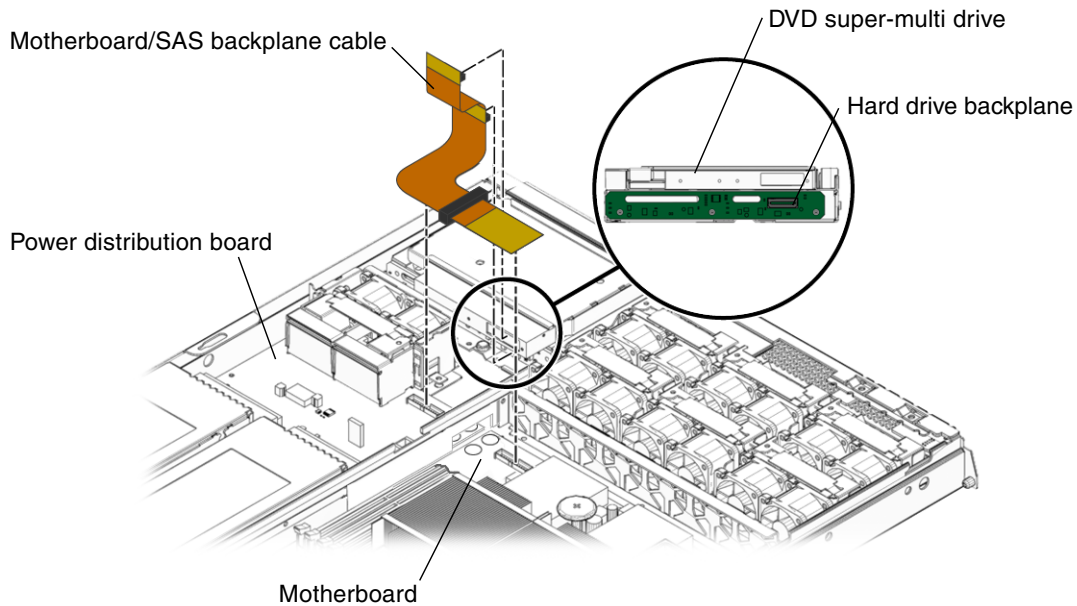

FIGURE 3-26 Motherboard/SAS Backplane Cable Routing
7. Disconnect the motherboard/SAS backplane cable from the power distribution board, hard drive backplane board, motherboard and if necessary, the optional DVD super-multi drive (FIGURE 3-26).
8. Reinstall the motherboard/SAS backplane cable (FIGURE 3-26).